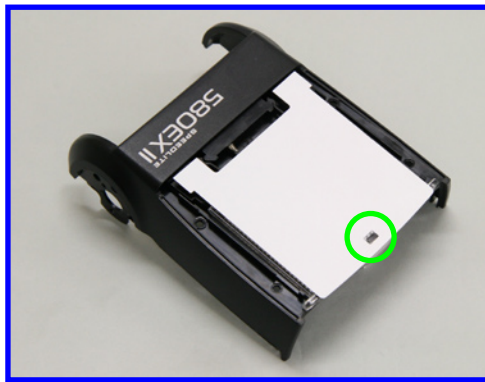

Fig. 040 Assembly of the Catch Sheet
- Attach by aligning the Catch Sheet hole and the Wide Panel hook. (Fig. 040)